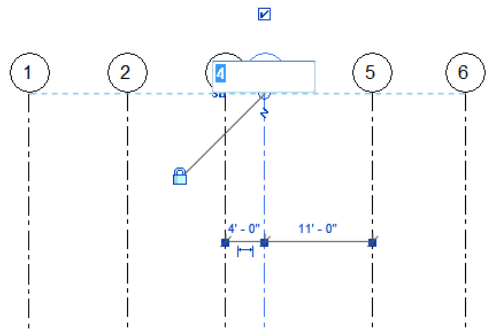

Figure 3-49 Renaming the grid line using the edit box
11. To rename grids, select the vertical grid line marked **4**. Now, place the cursor over the text in the grid bubble of the selected grid line and click; an edit box is displayed, as shown in Figure 3-49.